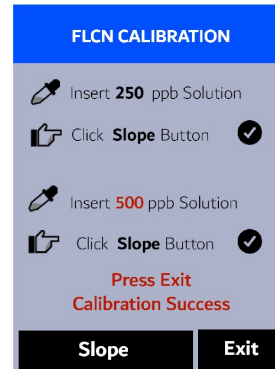

Figure 11.
17. If the calibration succeeds, a second checkmark (  ) "Calibration Success" message will appear (Figure 11). Otherwise, a warning message is displayed.